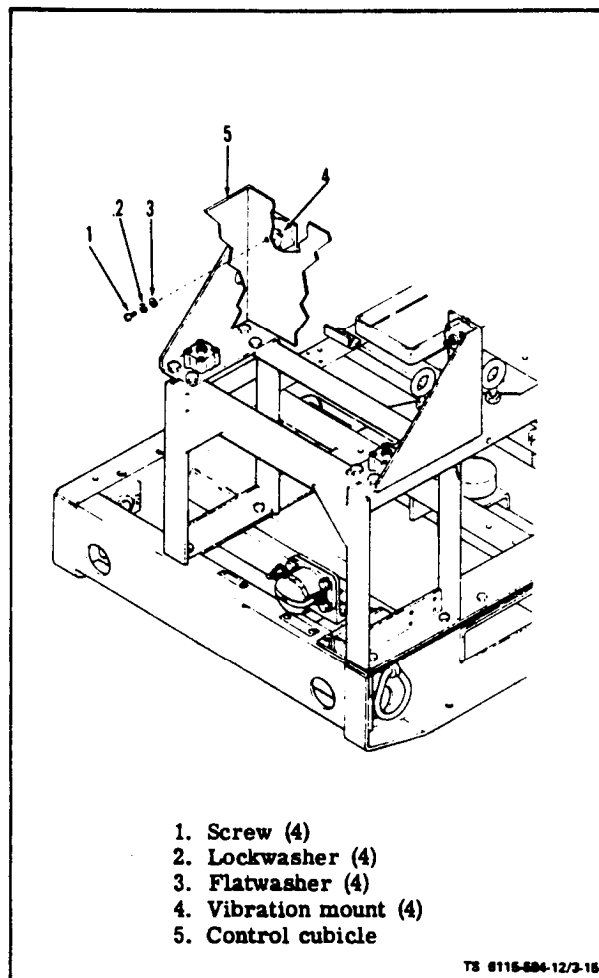
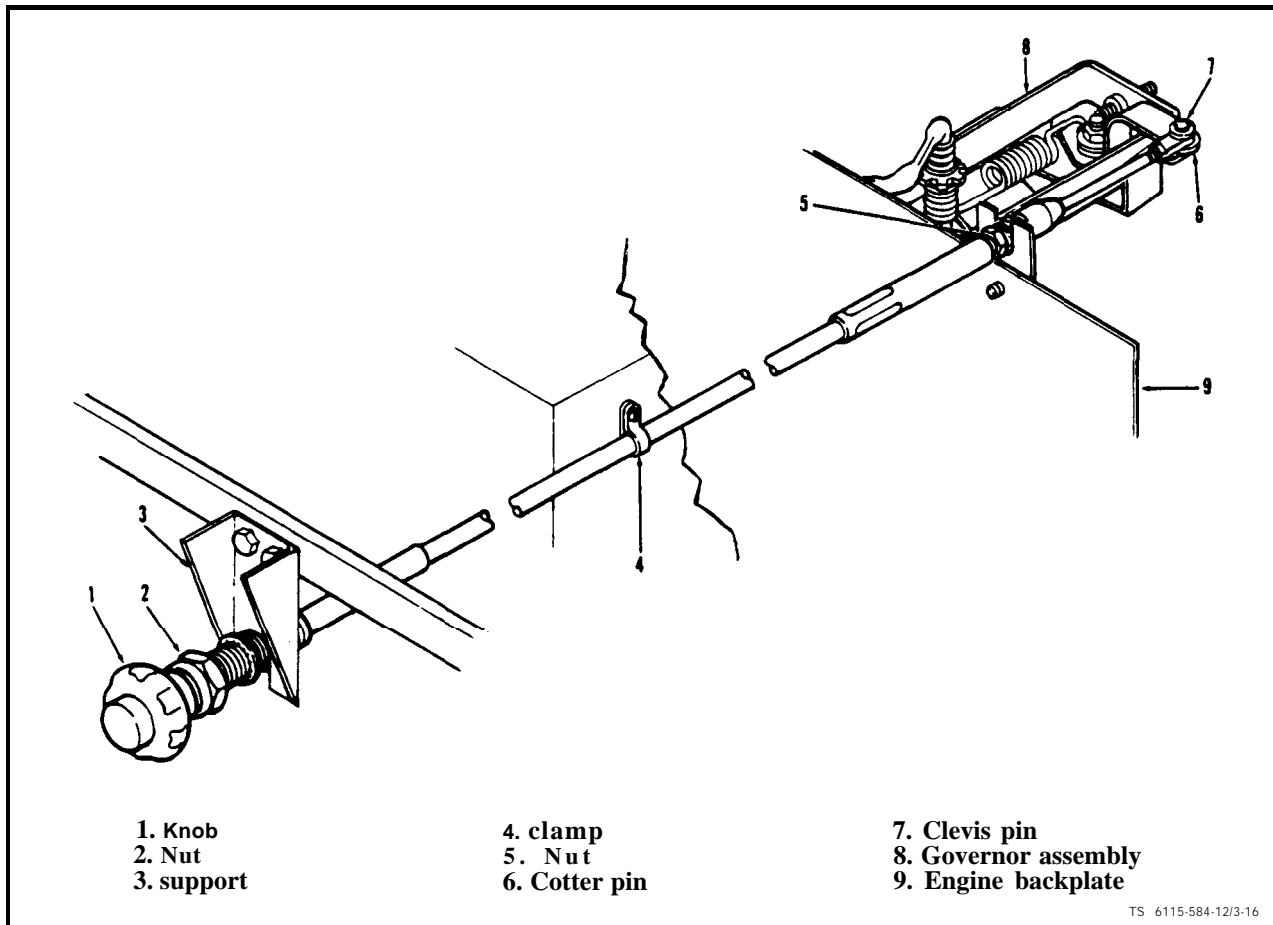

Figure 3-15. Control Cubicle Support Assembly
Figure 3-16. Speed Control Assembly
(1) Vibration Mounts (Four) (see figure 3-15). Inspect vibration mounts for deterioration or physical damage. Inspect mounts to see that they are free of dirt, fuel, or oil. Check to see that mounts are securely attached to control cubicle support on skid-base. If mounts are faulty, refer to higher level of maintenance.
(2) Engine Control Wiring Harness Assembly. On ASK equipped generator, open or remove all access doors. Inspect wiring harness for broken or frayed wires. Check for wires with damaged or deteriorated insulation. Check that all connectors and terminals are clean and tight.
(3) Speed Control Assembly (see figure 3-16). On ASK equipped generators lift motor speed control flap. Inspect to see that speed control is firmly attached to unit. Check that speed control moves in and out freely. If speed control is loose, refer to higher level maintenance.